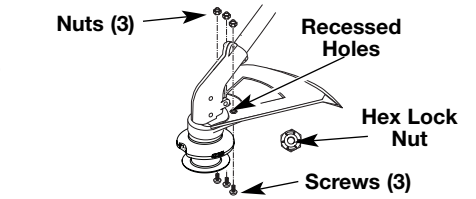

Fig. 5
2. Place a hex lock nut into one of the three recessed holes on the top of the cutting attachment shield (Fig 5).
3. Install a screw into the hole from the bottom of the cutting attachment shield and screw it into the nut installed in step 2 (Fig. 5). Do not tighten.